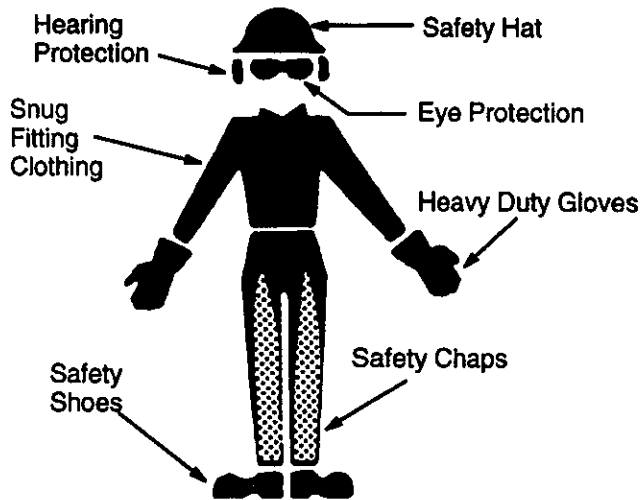

Figure 1
- Wear protective gear. **Figure 1.** Always use steel-toed safety footwear with non-slip soles; snug-fitting clothing; heavy-duty, non-slip gloves; eye protection such as non-fogging, vented goggles or face screen; an approved safety hard hat; and sound barriers—ear plugs or mufflers to protect your hearing. Regular users should have hearing checked regularly as chain saw noise can damage hearing.